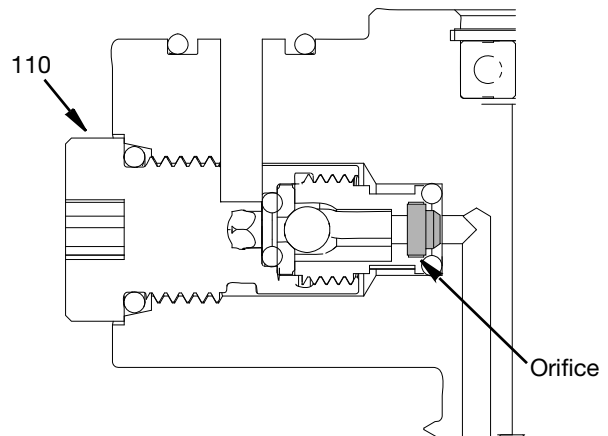

FIG. 27
1. Using a 5 mm allen wrench, remove the check valve body (110).
2. Place the orifice in the check valve orifice retainer as shown in FIG. 27.